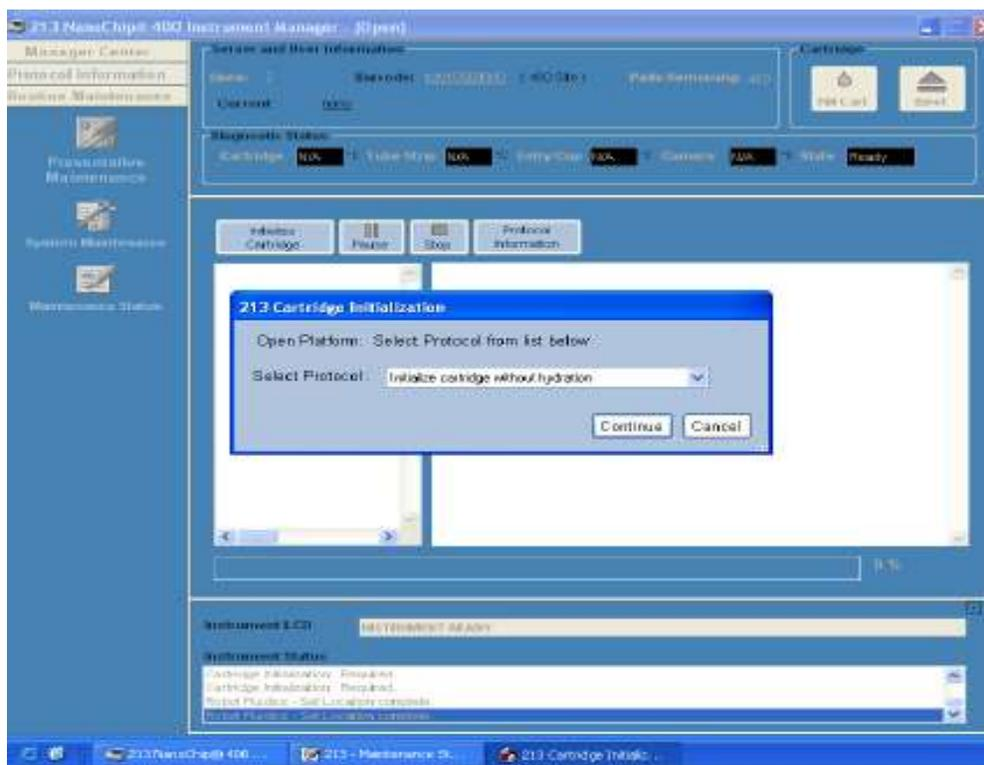

Figure 2: NanoCHIP[®] 400 instrument Manager
9. When the Cartridge Initialization window appears, select **Initialize Cartridge with Hydration** (see figure 2).